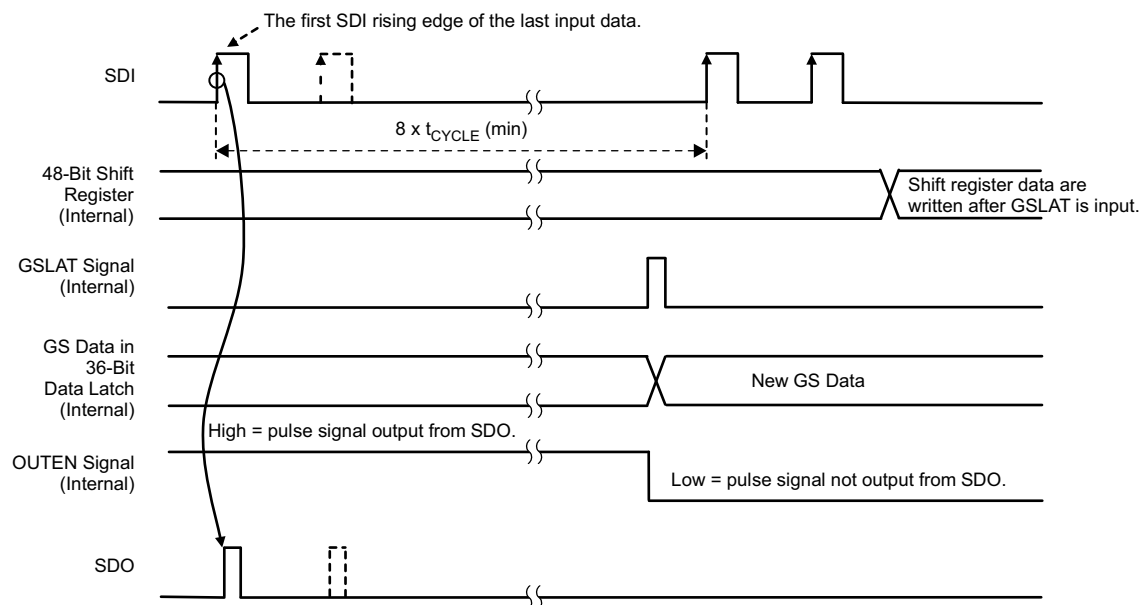

Figure 17. GS Data Latch Sequence (GSLAT)
A GS data latch (GSLAT) sequence must be input after the 48-bit data for all cascaded devices are written. When SDI is held low for the data latch hold time (t_{H1}), the 48-bit shift register data in all devices are copied to the GS data latch in each device. Furthermore, PWM control starts with the new GS data at the same time. Figure 17 shows the GSLAT timing.
7. The number of total bits is $48 \times N$. After all data are written, execute a GSLAT sequence as described in Figure 17 in order to copy the 36-bit LSBs in the 48-bit shift register to the 36-bit GS data latch in each device; PWM control starts with the written GS data at the same time.